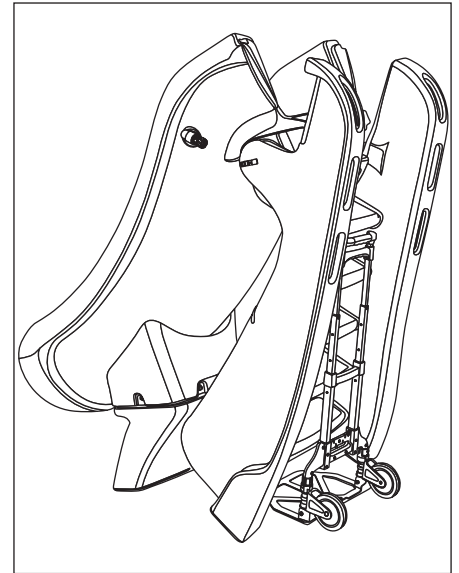

Figure 3
1. Place the provided trolley under the bottom step of the ladder as shown in **Figure 3**.
See Article 5 contained in ANSI/APSP/ICC-5 2011 STANDARD FOR RESIDENTIAL INGROUND SWIMMING POOLS and refer to FIGURE 3 and Table I for Minimum Water Envelope Dimensions AB, BC and Width at Point C.